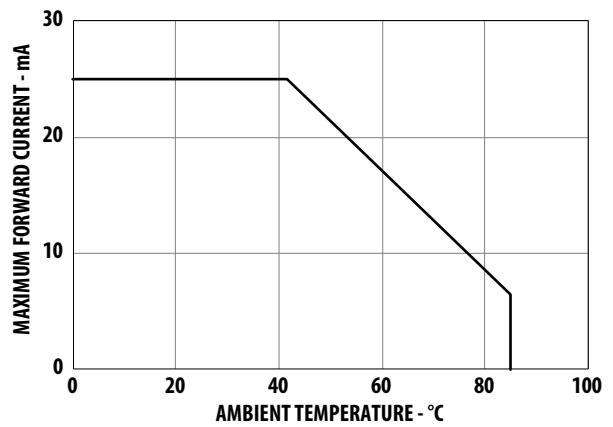
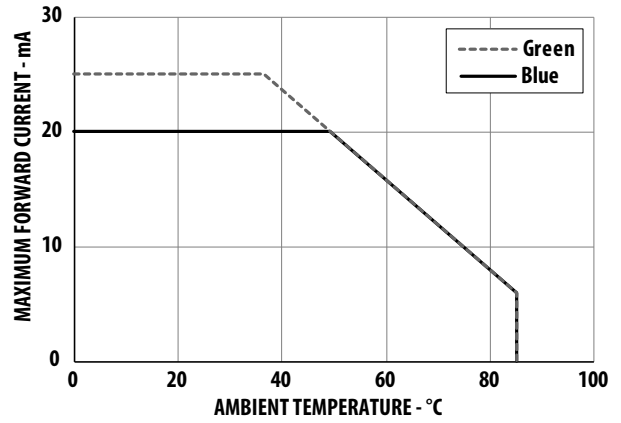

Figure 4. Maximum Forward Current vs. Ambient Temperature
Figure 8. Maximum Forward Current vs. Ambient Temperature
1. Derate linearly as shown in Figure 4 and Figure 8.